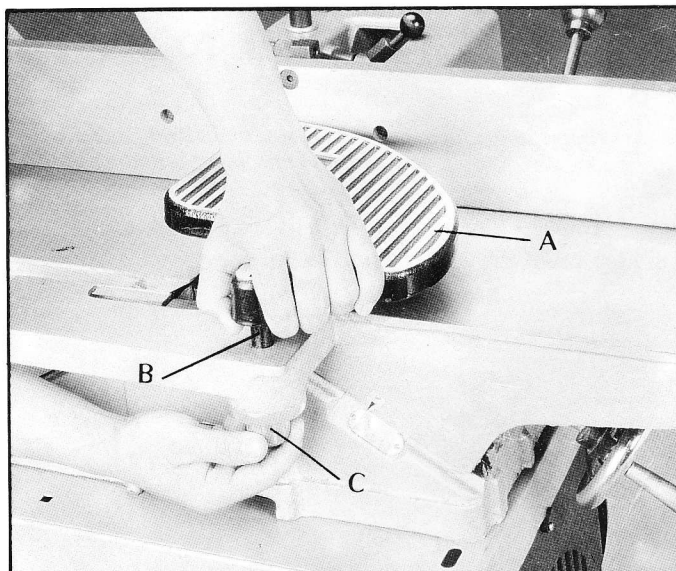

Fig.5
Assemble the cutterhead guard assembly (A) Fig. 5, to the jointer, by inserting the post (B) of the guard assembly down through the hole in the front table. A spring is supplied in the knob assembly (C) Fig. 5, that returns the guard over the cutterhead after a cut has been made. To provide spring tension, turn the knob (C) Fig. 5, to put tension on the spring before inserting the post (B). When inserting the post (B) down through the hole in the front table, make sure the spring, enclosed in the knob (C), engages the slot provided in the end of the post (B). If spring tension is too much or not enough, remove the guard and post and adjust spring tension accordingly by rotating knob (C).